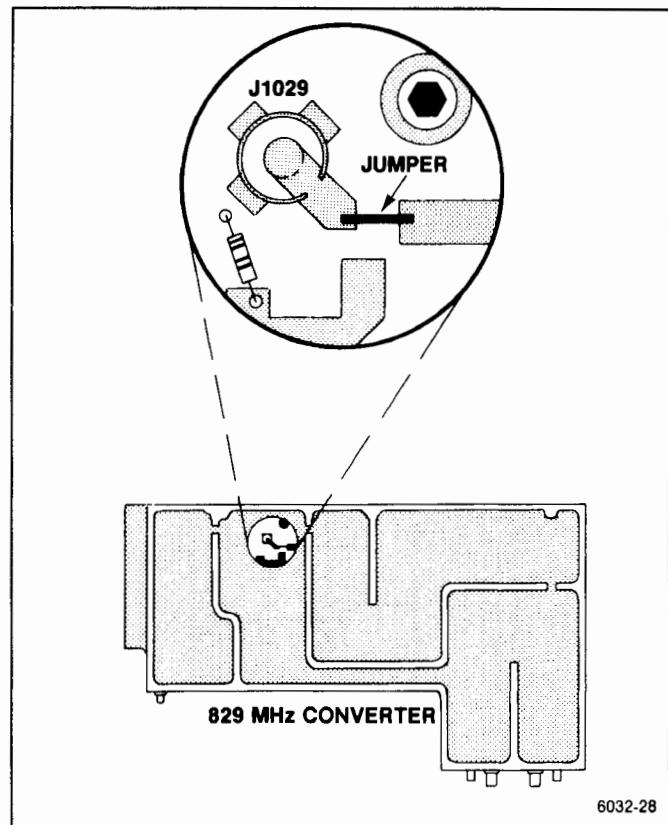

Figure 6-13. 829 MHz amplifier test jack and jumper.
b. Unsolder and reconnect the jumper, on the 829 MHz Amplifier board, to the test Peltola jack J1029 (see Figure 6-13).